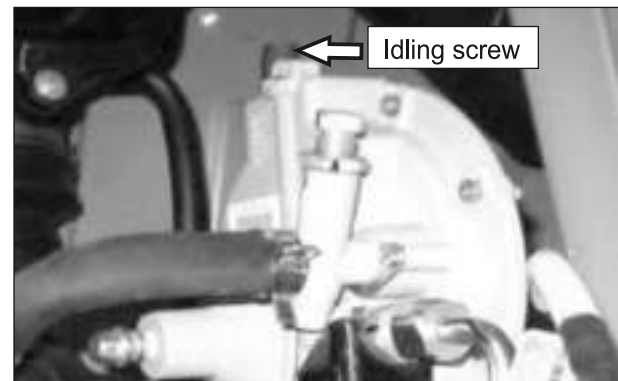

Fig. 2.48
- Once the engine is started, allow it to idle for a moment, then turn in the idling screw slowly, the rpm of the engine reduces and the engine will try to go off. (Fig. 2.48)
- At this point, slowly rotate the idling screw of the reducer in opposite direction so that the rpm increases and engine firing is uniform. Tighten the lock nut by hand so that the screw position is not changed. (Fig. 2.48)